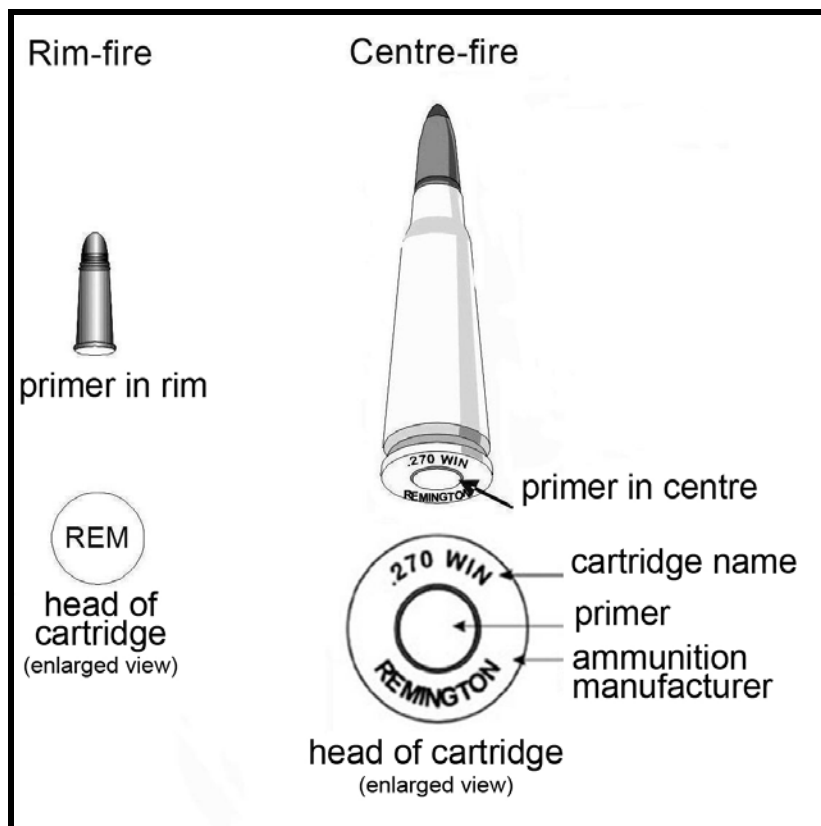

Figure 20. Examples of a rim-fire and centre-fire cartridges with head stamp
- b. Manufacturers produce firearms of many calibres. **Always make sure the cartridge name on the “head stamp” matches the information on the data stamp**, if available, on the barrel of the firearm (Figure 20). This is the most important point to remember when selecting ammunition. Then, choose the right type of ammunition for your firearm and target. The right shape or weight of the bullet is an example. If in doubt, consult a firearms or ammunition vendor.